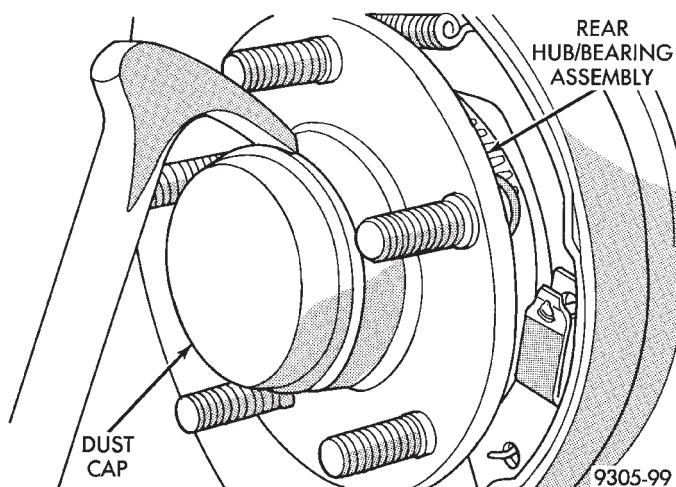

Fig. 5 Rear Hub And Bearing Dust Cap Removal
(1) Remove rear tire and wheel assembly from vehicle.
(2) Remove rear hub and bearing assembly dust cap (Fig 5). Then remove cotter pin and nut lock from spindle.